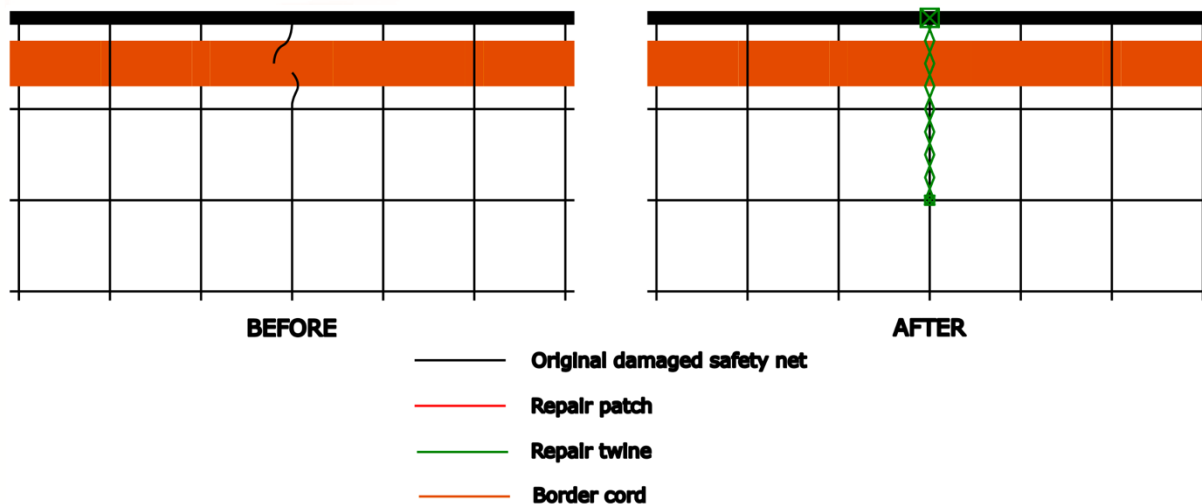

Figure 7. Single strand repair adjacent to the selvage.
- The C rings shall be applied as per Figure 7 and shall enclose both the original net and new patch material.